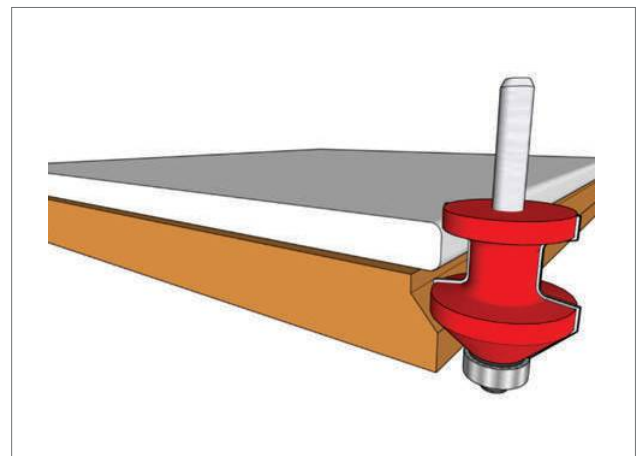

Fig.2
- Always ensure that there is a radius of R 3mm on both sides of the edge of the cut-out (or using a profile router bit: Titman no. XC 341*12). (Fig. 2)